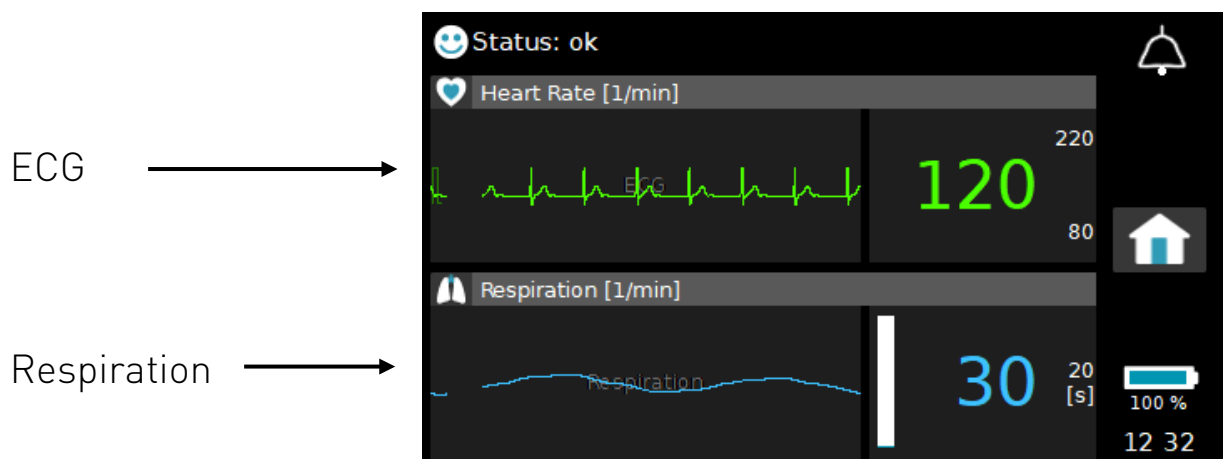

Fig. 32 View 2 Screen Content
**View 2** shown in Fig. 32 differs from **View 1** in that the quality indicators described in section 3.4.6 for **Heart Rate** and **Respiration** workspaces are replaced by their corresponding waveforms: